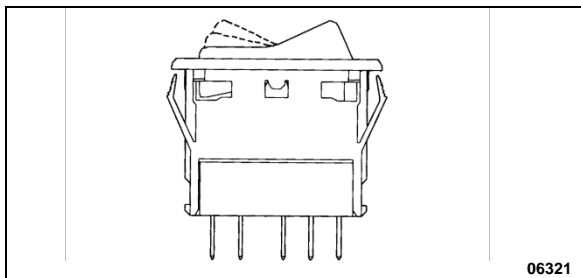

FIGURE 94: SWITCH
3. To install a new switch, reverse the procedure (Figure 94)